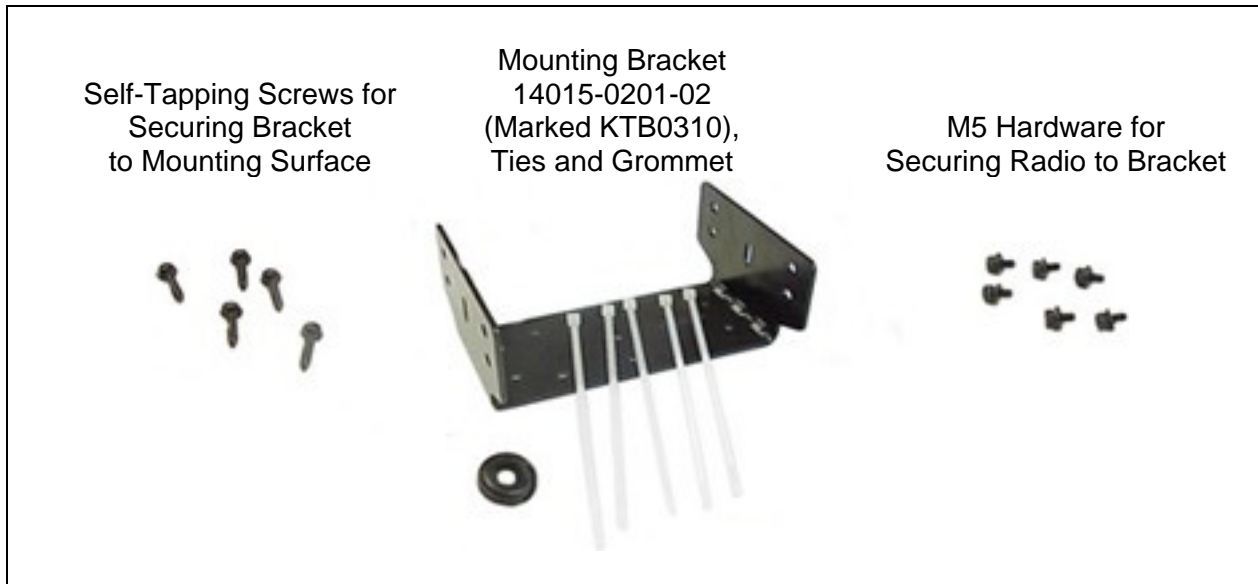
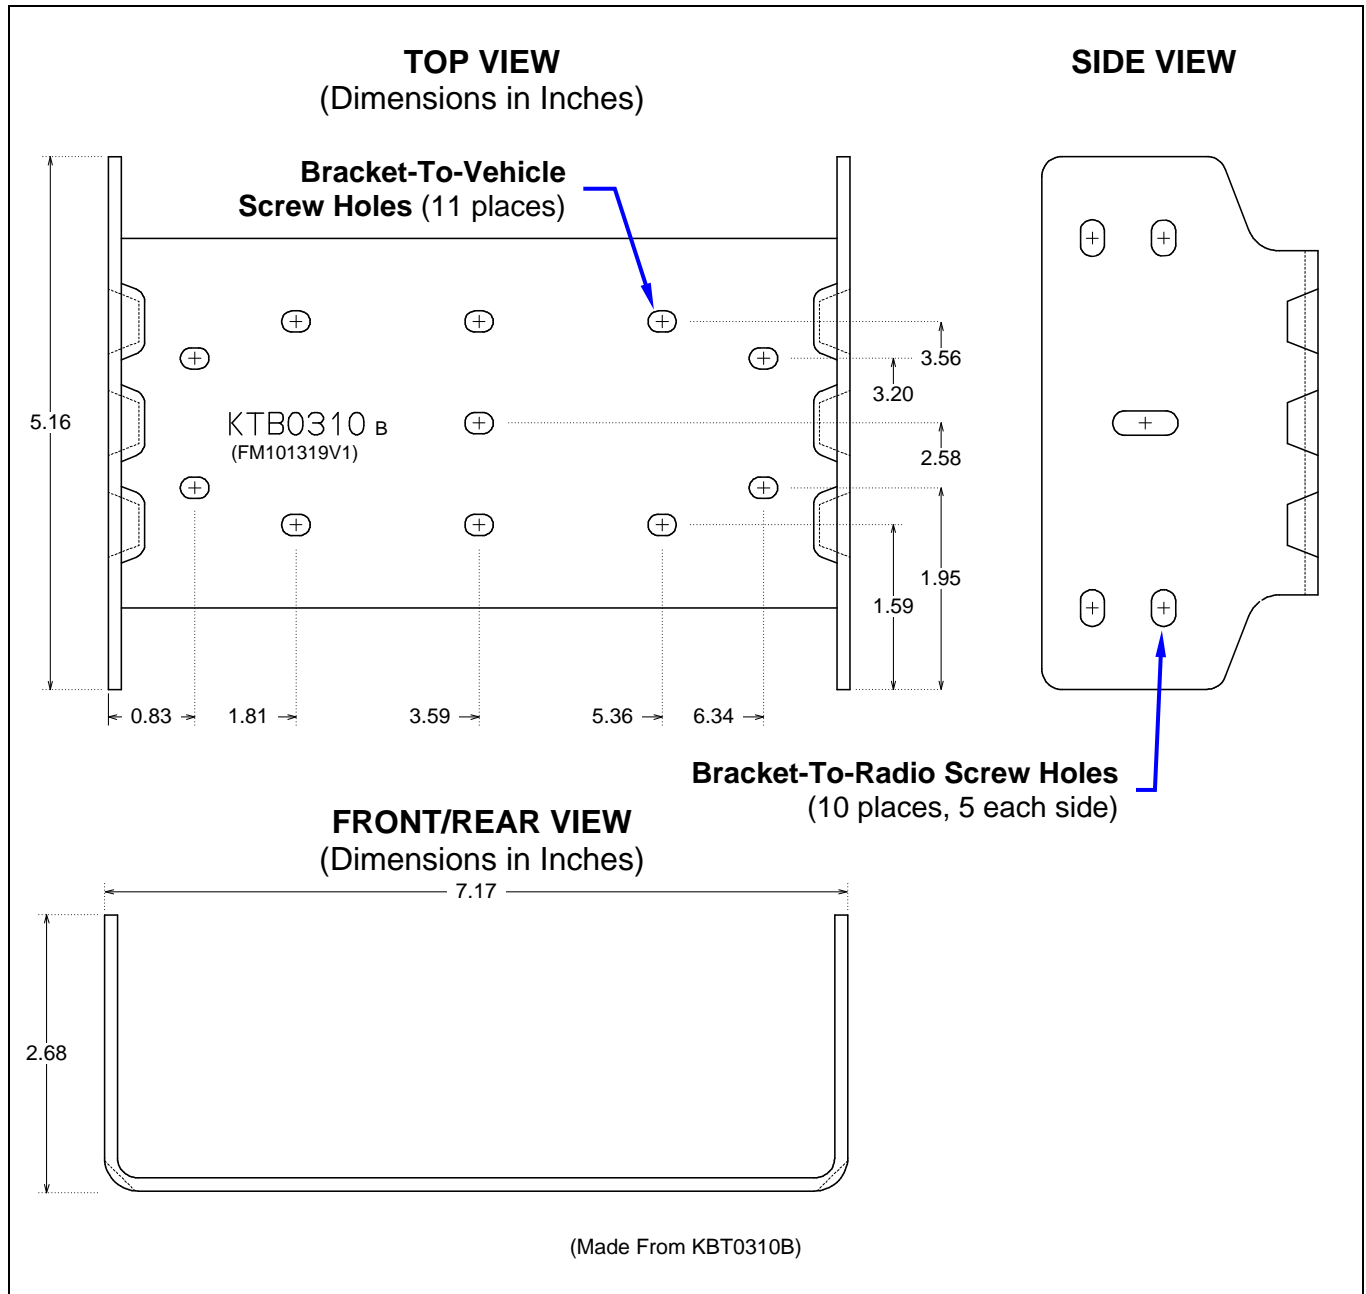

Figure 8-2: Mounting Bracket Kit 14015-0201-01
Figure 8-3: Mounting Bracket 14015-0201-02 Dimensions (Radio Not Shown)
The Mounting Bracket Kit for the radio includes a heavy-gauge steel U-shaped mounting bracket. The radio should be attached to a mounting surface using this bracket. The bracket can be mounted above or below the radio. Kit contents are shown in Figure 8-2, and bracket dimensions are shown in Figure 8-3.
The radio's mounting bracket is included with the Mounting Bracket Kit 14015-0201-01. Kit contents are shown in Figure 8-2. This kit is Item 1 listed in Table 5-2 (page 24).
As illustrated in Figure 8-3, the bracket is both left-to-right and front-to-rear symmetrical. It has eleven (11) holes for securing it to a mounting surface. At least four (4) of these holes must be used to secure the bracket to the mounting surface. Five 20-millimeter-long self-tapping screws are included in the Mounting Bracket Kit for this purpose. However, some other type of hardware (not supplied) may be used, such as #10-32 stainless-steel self-locking hardware (i.e., machine screws with washers and locking nuts), or self-drilling screws. Self-drilling screws such as "TEK" screws do not require drilling of a pilot hole prior to installation. Do not use common self-threading sheet metal screws because they will loosen over time with vehicle vibrations.
6. Using the bracket as a template, and/or the dimensional information shown in Figure 8-3, mark and drill at least four (4) mounting holes into the mounting surface as required per the type of hardware used.
2. Secure the radio to the bracket using at least four (4) of the six (6) M5 x 10 mm stainless-steel socket-head screws included with the Mounting Bracket Kit. These screws have captive lockwashers. Kit contents are shown in Figure 8-2. This kit is Item 1 listed in Table 5-2 (page 24).